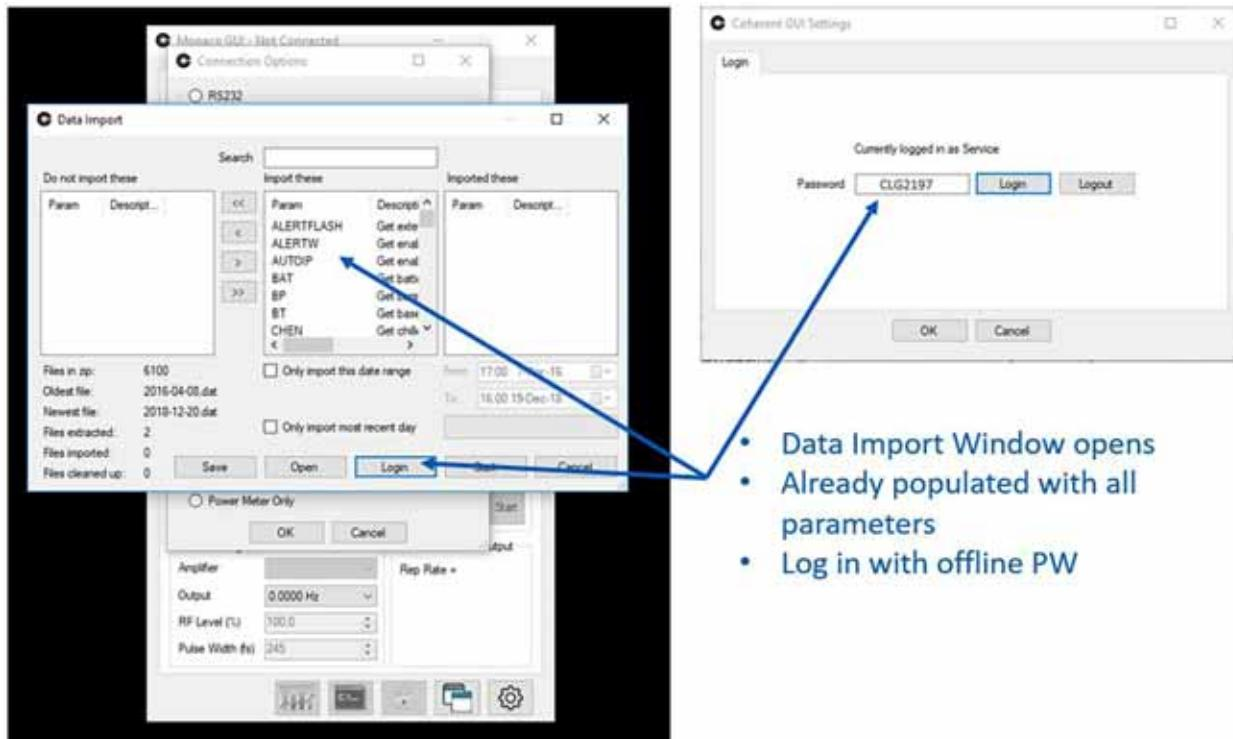

Figure 3.2-3. Data Import Window
3. The Data Import window opens. It is automatically populated with all laser parameters, but it is not necessary to import all of the data from the log file. Log in with the offline password (see Figure 3.2-3).